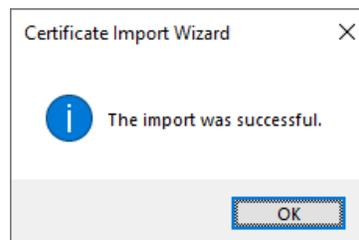

Figure 62: Certificate Import Confirmation
- On the confirmation dialog box (Figure 62), click **OK**.